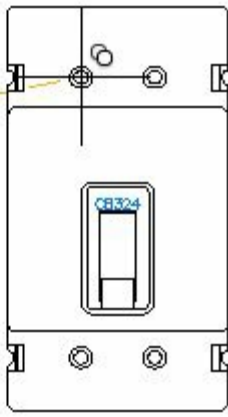

Figure-38. Copied footprint
- Select the desired component. Its footprint will get attached to the cursor; refer to Figure-38.